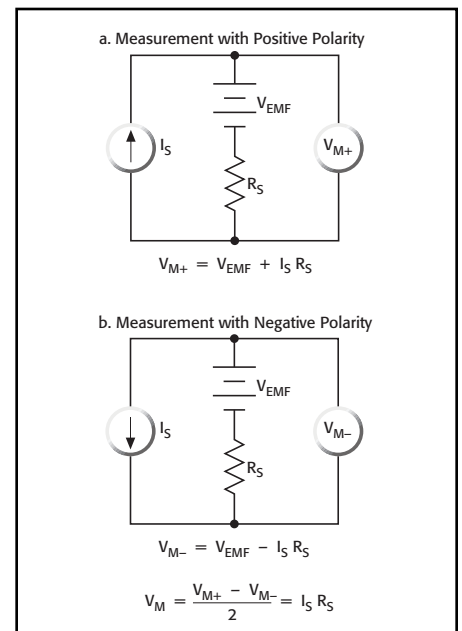

Figure 5b: Canceling Thermoelectric EMFs with Current Reversal
- **Current Reversal Technique/Delta Mode (Figure 5b).**
Thermoelectric EMFs can also be cancelled by taking two voltages with test currents of opposite polarity. The voltage due to the test current can now be calculated using the formula shown in **Figure 5b**. This method provides better noise immunity and, therefore, better accuracy than the offset compensation technique. (*This is the method employed by the Model 2182 Nanovoltmeter/Model 2400 SourceMeter instrument combination.*)